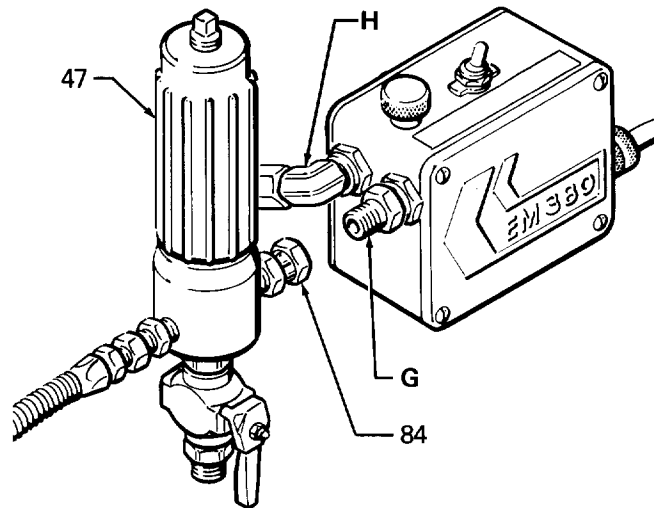

Fig 22
Hold the nut at the pressure control with a wrench and disconnect swivel union (84) from nipple (G). Remove filter (47). See Fig 22.